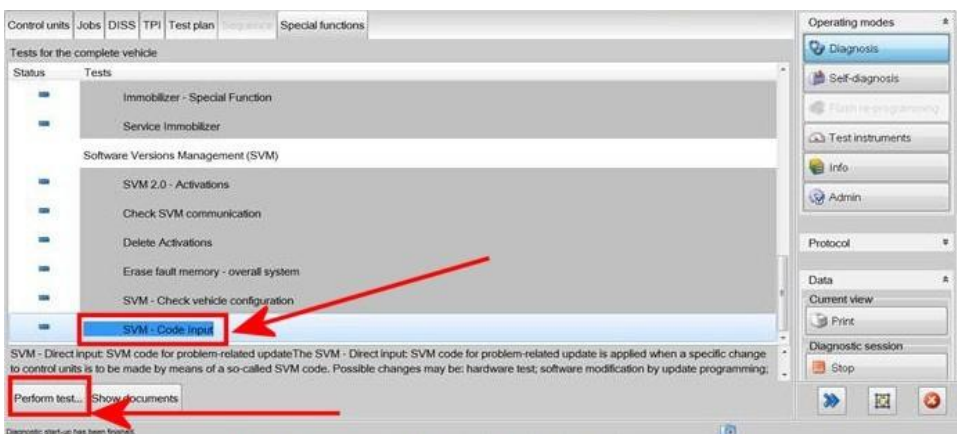

Figure 2
- Because of the highest transmission stability we recommend the use of the diagnosis interface VAS6154 (WiFi diagnostic tool) only in USB operation or cable-connected VAS 5055 for the reprogramming (updating) of control units. If these units are not available, the diagnosis interface VAS5054 (A) can also be used in USB mode
- Within the Special functions tab select 'SVM - Code Input' then select Perform test (Figure 2)